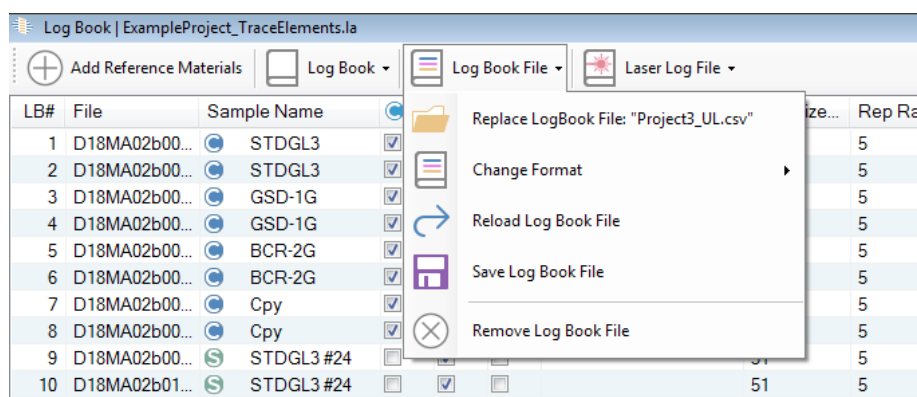

Figure 20: The Log Book File drop-down menu.
- Log Book File menu (see Figure 20):